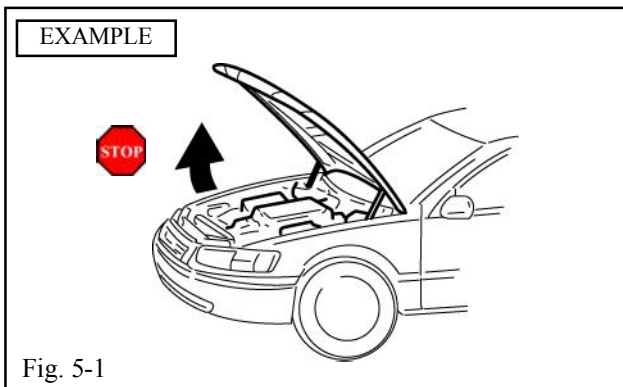

Fig. 5-1
- (a) Open the Hood. (Fig. 5-1)
- (1)  Do not close the Hood during the Registration Setting Procedure. (Steps b-ff)